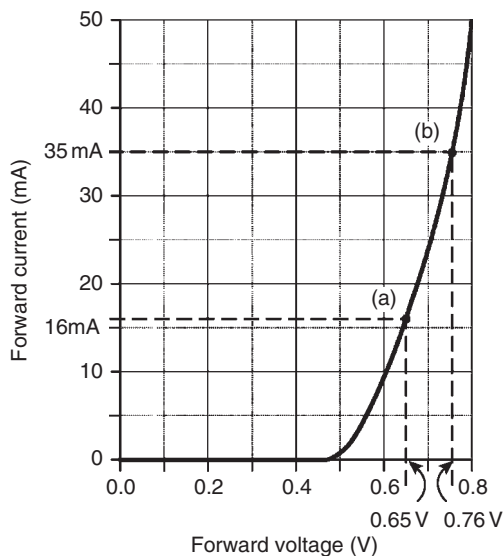

Figure 11.12
The I/V characteristic is shown in Fig. 11.12. Since the device begins to conduct when a potential of approximately 0.6 V is applied to it we can infer that **the semiconductor material is silicon** rather than germanium.
Problem 6. For the characteristic of Fig. 11.12, determine for the device (a) the forward current when the forward voltage is 0.65 V , and (b) the forward voltage when the forward current is 35 mA .
- (a) From Fig. 11.12, when the forward voltage is 0.65 V , **the forward current = 16 mA**